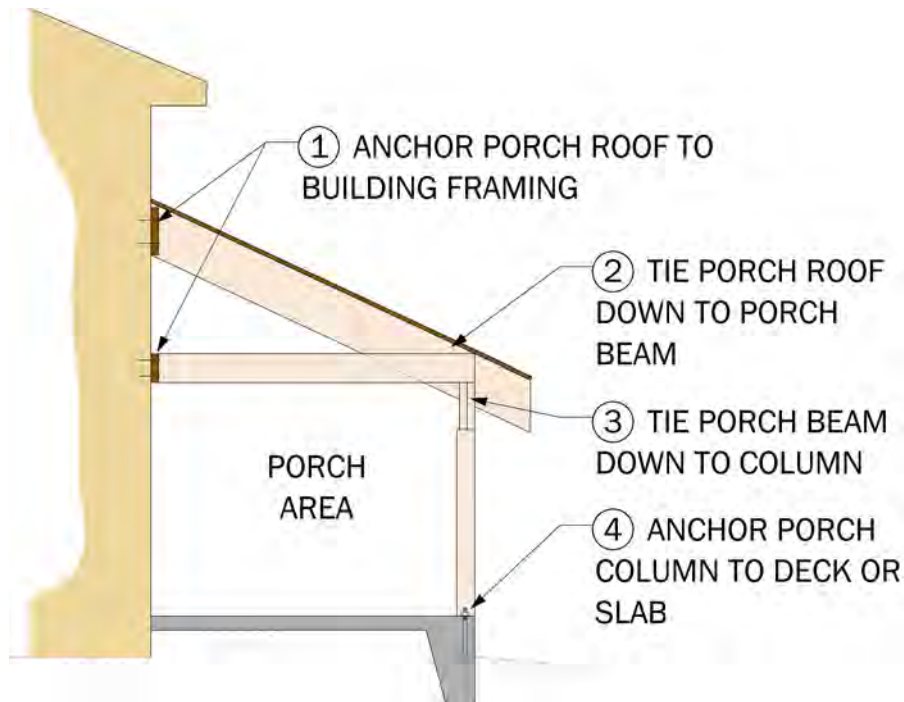

Figure 3 – Continuous Load Path for Covered Porch
2. Implement continuous load path concepts for porches and carports where the code may be “silent.” Figure 3 shows some of the elements that are critical to address, but are not captured in the prescriptive requirements in building codes, especially outside of the high risk areas.